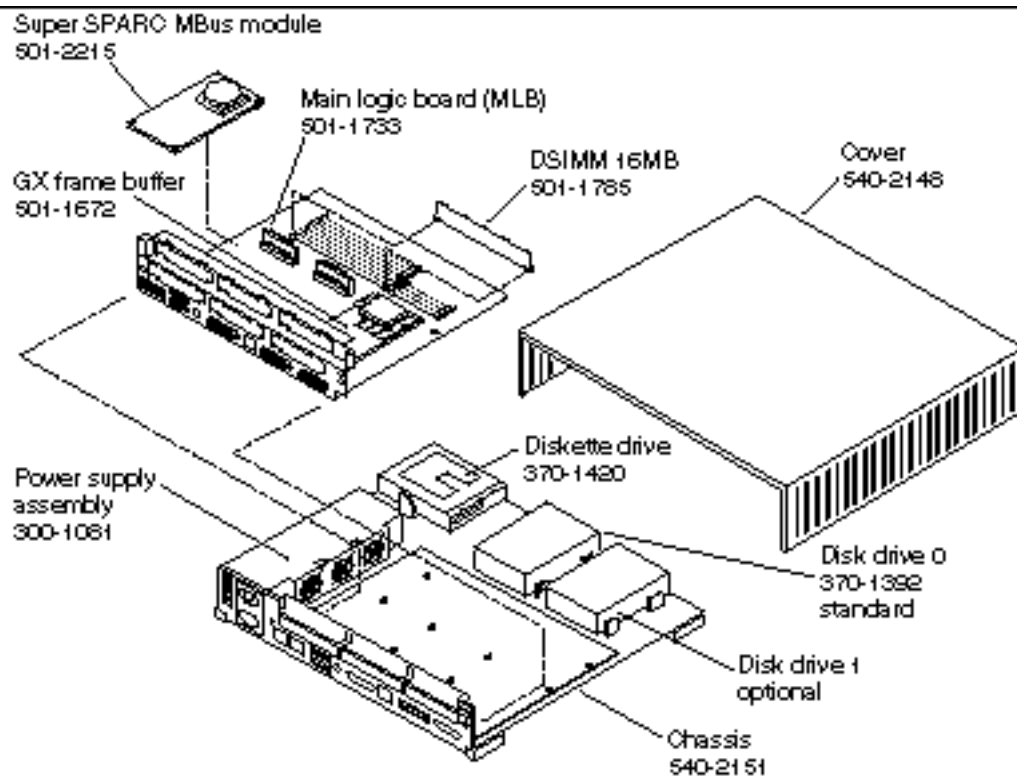
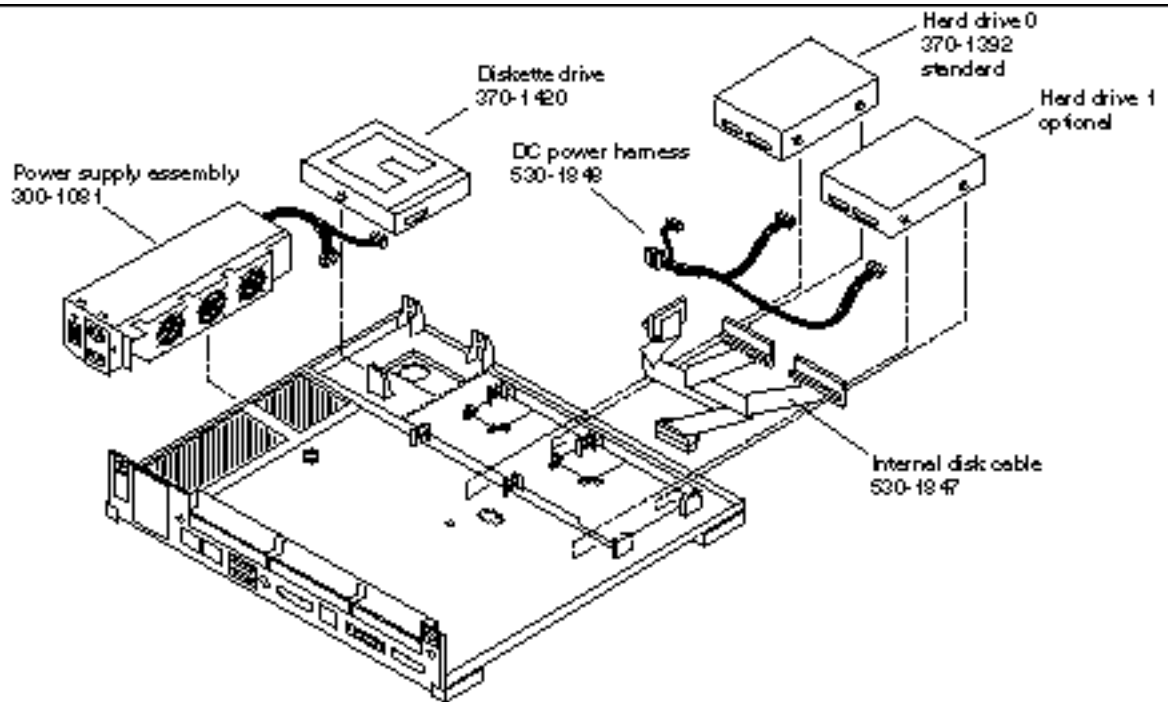

Figure 1-6 Exploded View of the SPARCstation 10 System—MLB
Figure 1-7 Exploded View of the SPARCstation 10 System
- Figure 1-6 and Figure 1-7 are exploded views of the SPARCstation 10 assembly.